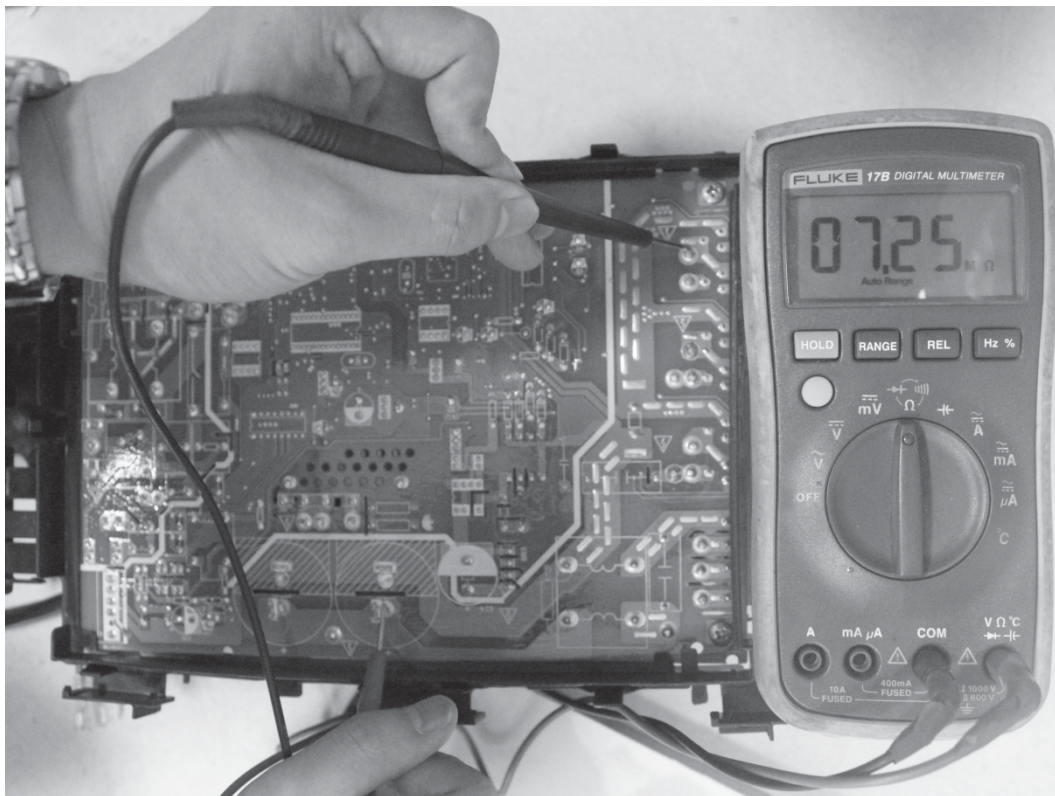

Fig. 22 – P-U
**NOTE:** In figures 22–25 the following is observed: